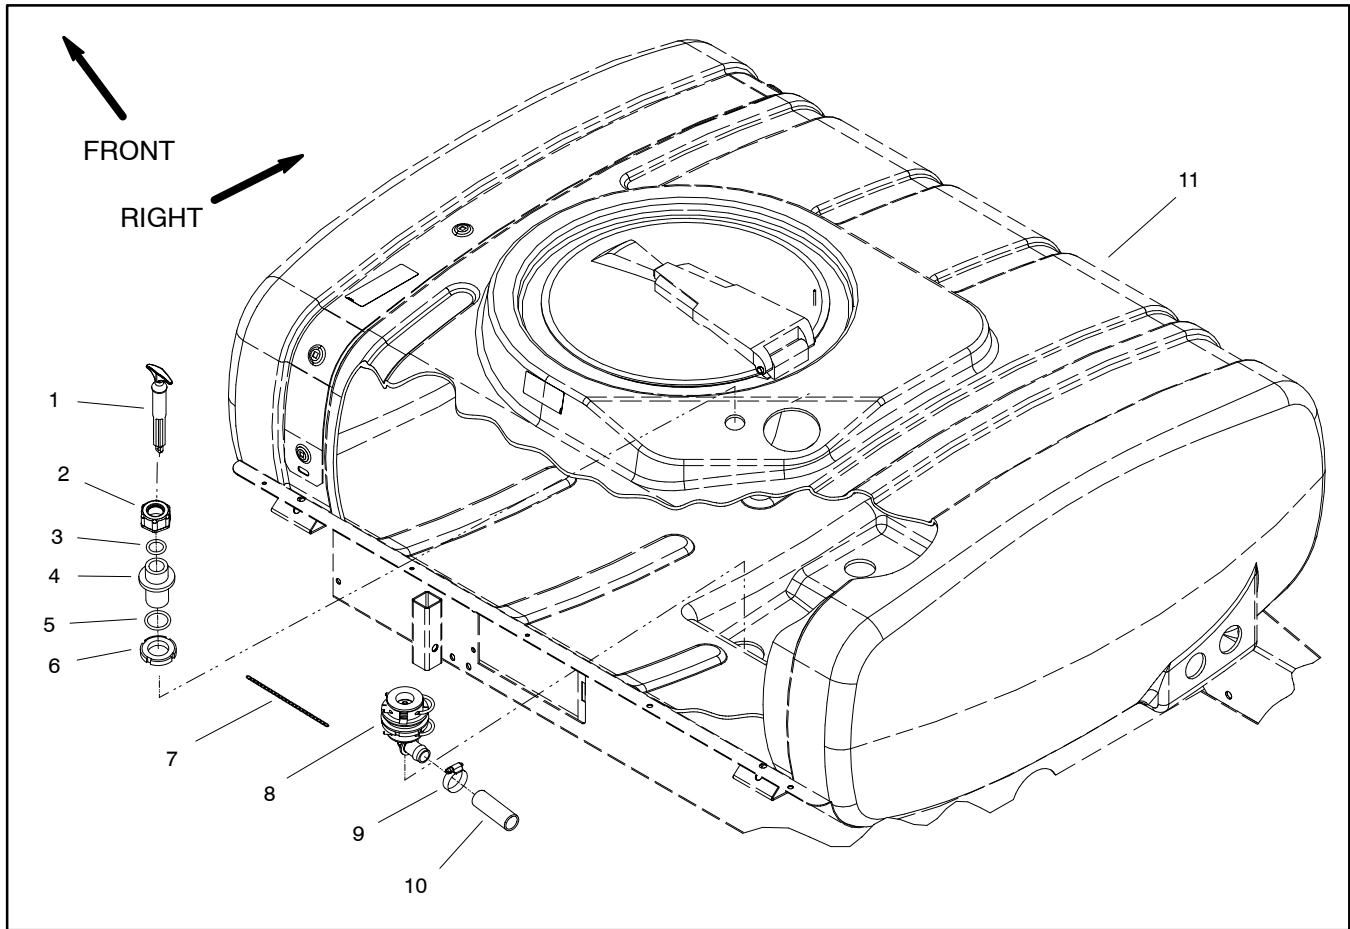

Figure 38
Disassembly (Fig. 38)
3. Raise tank lid and remove strainer basket to gain access to chain (item 7) that connects drain handle (item 1) to plunger in drain assembly (item 8). Disconnect chain from drain handle.
4. If necessary, remove drain handle and bulkhead using Figure 38 as a guide.
Assembly (Fig. 38)
1. Assemble drain tube using Figures 38 and 40 as guides. Replace all removed o-rings and gaskets.